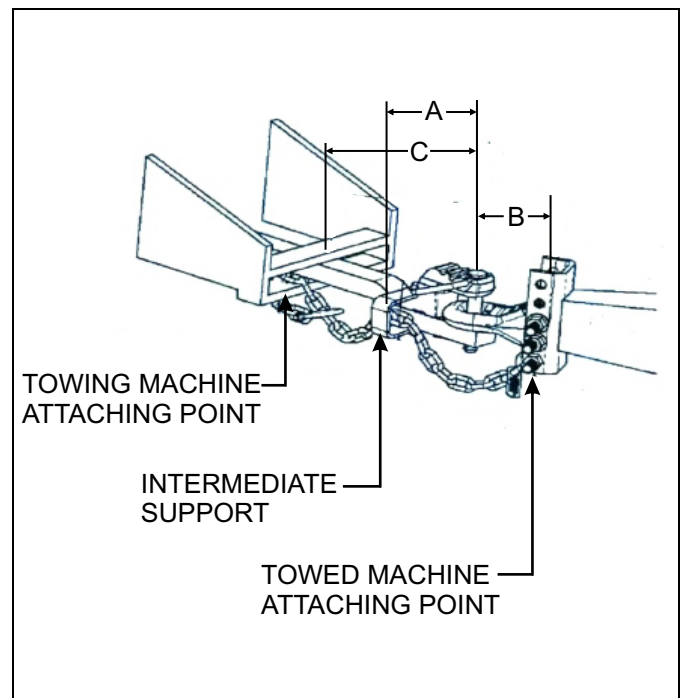

Figure 4-8: Auxiliary Attaching System with Intermediate Support
8. Attach the safety chain to the tractor drawbar (See Figure 4-8.) Refer to the tractor operating manual for additional information. Provide only enough slack in the chain for turning. Do not use an intermediate chain support as the attaching point for the chain on the tractor. Do not pull the implement by the safety chain.